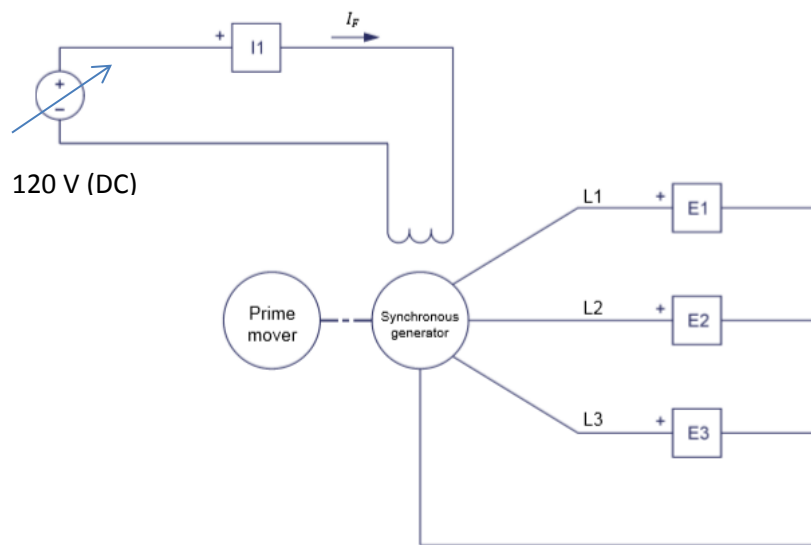
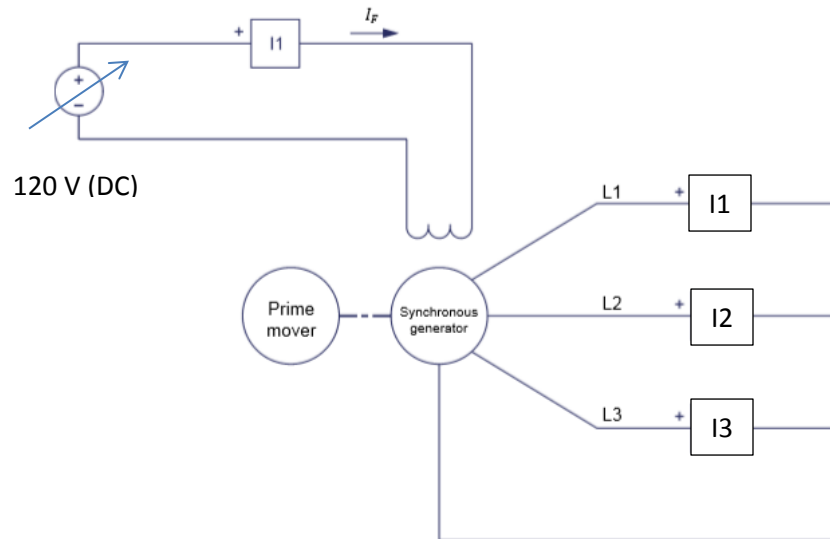

Fig. 3: No- Load Test.
Fig. 4: Short Circuit Test
- a) Connect the stator windings in a Y-connection (by shorting out terminals 4-5-6). Make sure the exciter switch is in the OFF position, and the exciter knob is in the minimum position. Then install volt-meters (using the Data acquisition and Control interface which should be powered by a 24 V supply) across each phase and neutral as shown in Fig. 3. Furthermore, connect a variable 120 V DC supply across the field winding and an amp-meter to read the field current – also illustrated in Fig. 3. As a precaution, always set the variable DC supply to a minimum value to turning the control knob CCW to the limit.
- a) Replace volt-meters in Fig. 3 with amp-meters as shown in Fig. 4.